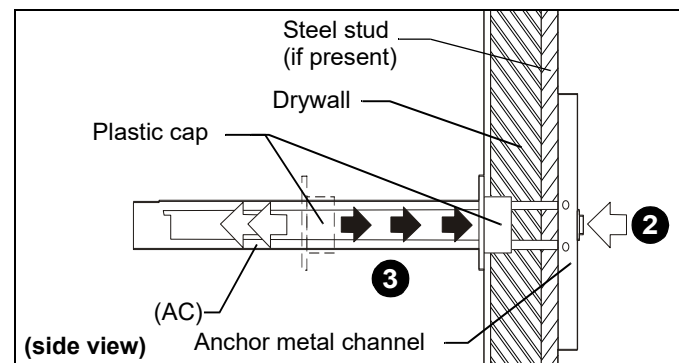

Figure 19
2. Holding plastic straps on anchor (AC), pull anchor away from wall until channel rests flush behind wall making sure anchor channel is positioned vertically on drywall, or steel stud (if present). (See Figure 19)
3. Slide plastic cap on anchor (AC) towards wall until flange of cap is flush with wall. (See Figure 19)